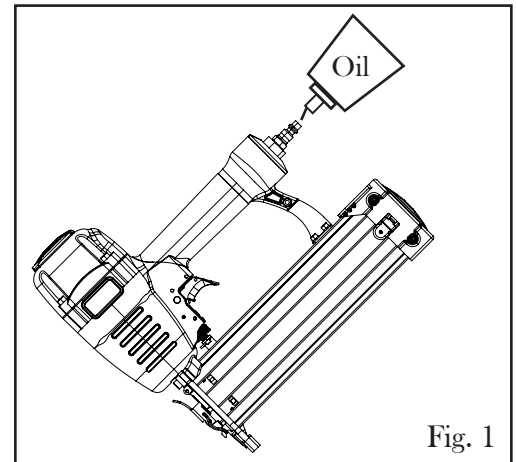

Fig. 1
LUBRICATING THE TOOL (Fig. 1)
2. Turn the tool so the air inlet is facing up. Place 2 to 3 drops of air tool lubrication oil into the air inlet (Fig. 1). **NOTE:** Excessive lubrication may damage the work surface. Wipe off any excess oil from the inlet.